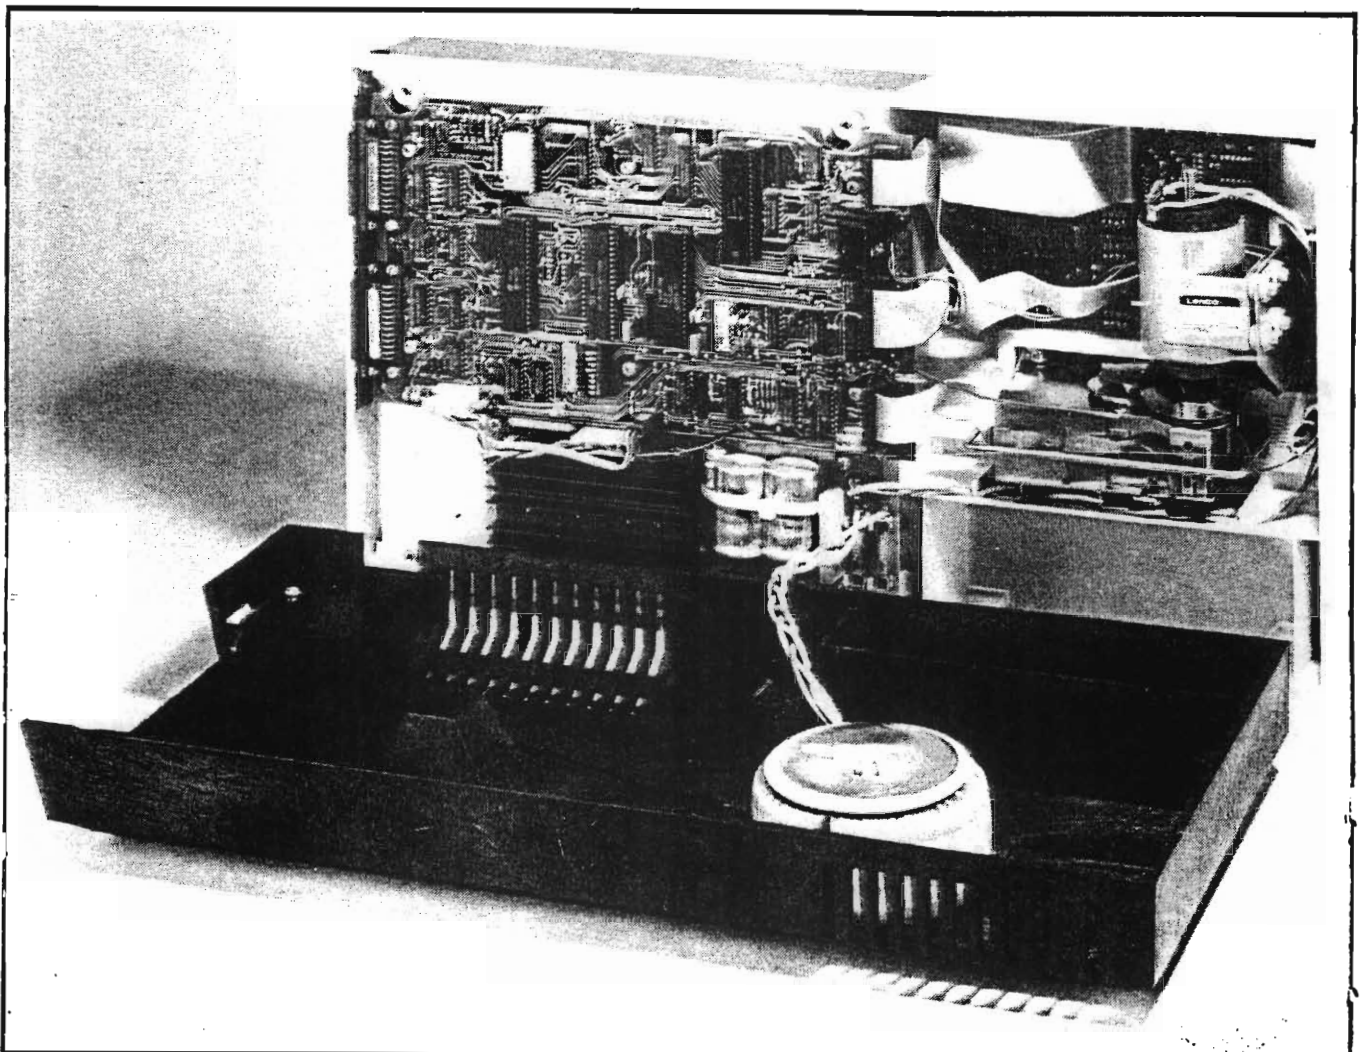

Fig. 6.1 Opening the Reader/Punch Combo
#### 6.1.1.1 OPENING THE READER/PUNCH COMBO (Fig. 6.1)
- d) Separate the top and base (see Fig. 6.1), and place the top on the right side (do not place the top upside down for not to scratch the lid).